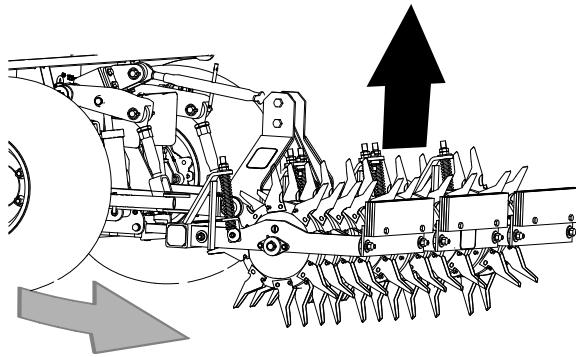

Figure 24
4. Raise the aerator at the end of the pass before turning (Figure 24).